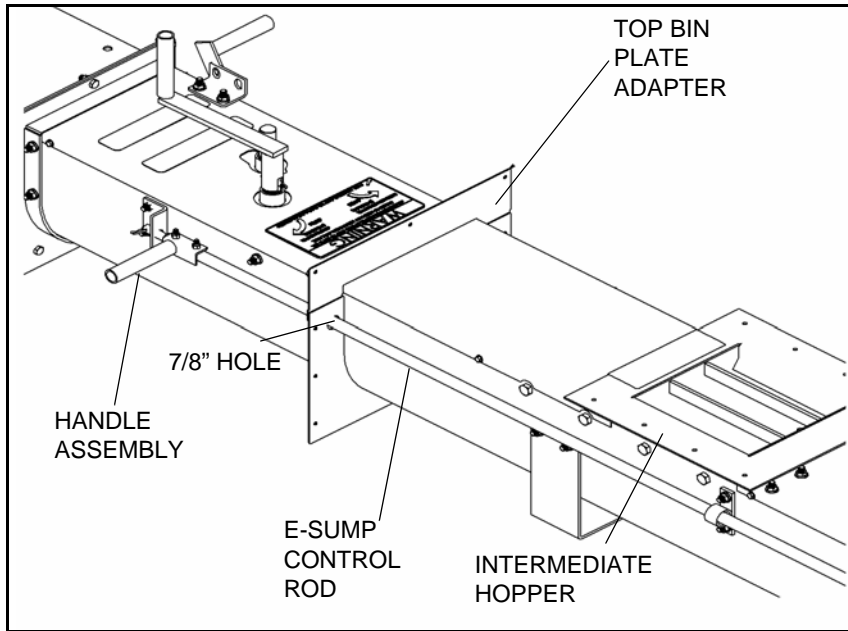

Figure 4.9
6. Slide the E-Sump control rod through the 7/8" hole in the top bin plate adapter, through the control rod bracket and next to extension hopper until the pre-drilled holes in the E-Sump control rod line up with the holes in the E-Sump gate coupler (Figure 4.9 and 4.10). Secure using two 1/4" x 1-1/2" bolts and locknuts.